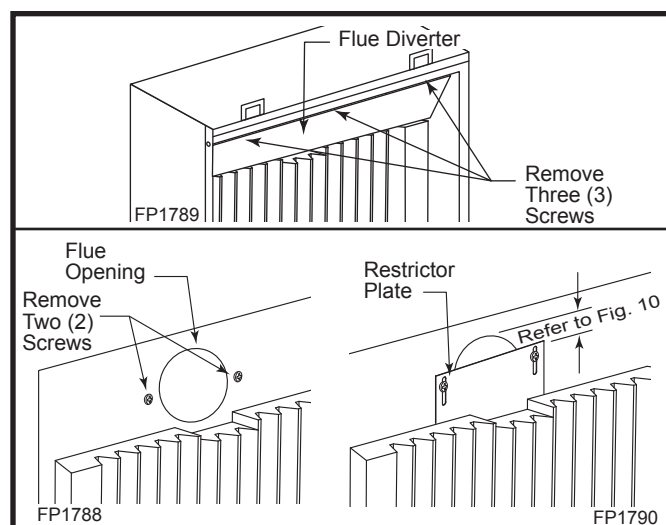

Fig. 9 Install restrictor plate for optimum flame appearance.
2. Remove three (3) screws securing flue diverter to top of combustion case. Remove flue diverter. (Fig. 9)
3. Remove two (2) screws on sides of flue opening.
4. Install restrictor plate with two (2) screws removed from back of unit. (Fig. 9)
5. Re-install flue diverter with three (3) screws removed earlier.